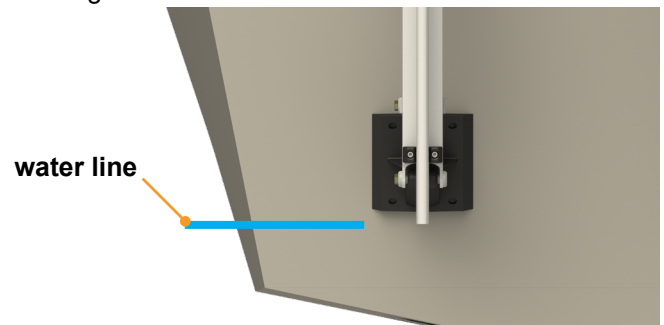

Fig.1
2. The lowest point of the anchor must be mounted above the water line to prevent adverse handling of the vessel (Fig.1).